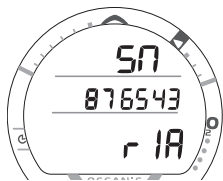

Fig. 50 - SERIAL NUMBER
- Depressing the A and S buttons simultaneously for 10 seconds while viewing the NORM or GAUG SURF MAIN screen will access the VT3's SERIAL NUMBER screen displaying (Fig. 50):